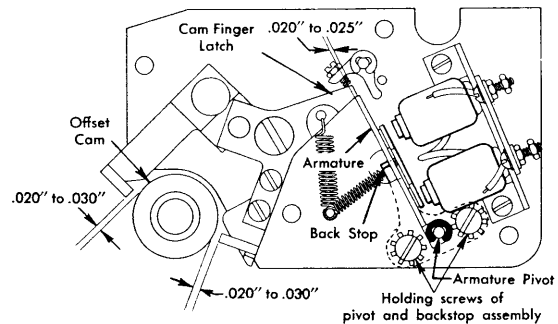

Figure 56. Armature Pivot and Backstop Adjustment
**ARMATURE PIVOT AND BACKSTOP (FIGURE 56)**